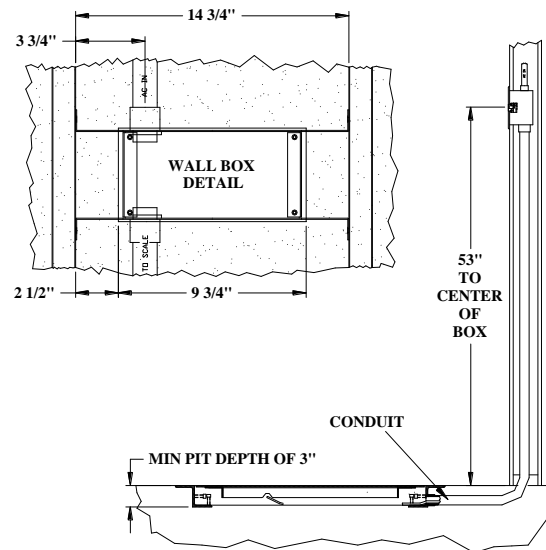

Figure 1: Wall Box/ Conduit Placement
STEP 2: (Figure 1) Mount the Wall Box Display into the wall and run the conduit, with the connector cable inside, down through the wall and into to the pit as shown (see “Pit Area Installation Notes”).